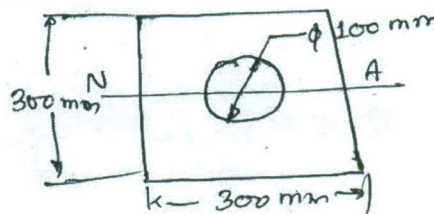

Fig. Q6 (c)
c. A wooden section  $300 \text{ mm} \times 300 \text{ mm}$  has a central bore of 100 mm diameter as shown in Fig. Q6 (c). If it is used as a beam to resist a shear force of 10 kN, find the shearing stress at crown of the bore and at neutral axis. (08 Marks)